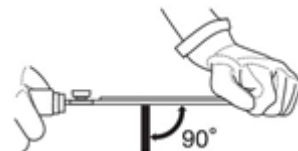

Fig. 24
3. Hold the file horizontally (Fig. 24).